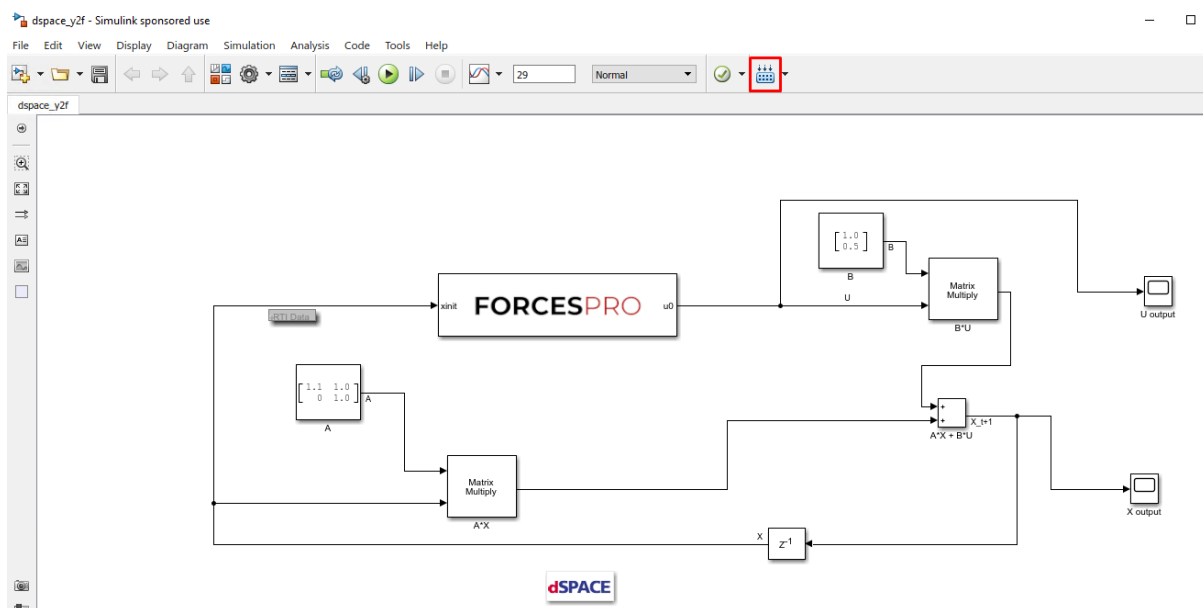

Figure 13.27: Compile the code of the Simulink model.
12. (Figure 13.27) Compile the code of the Simulink model. This will also automatically load the model to the connected dSPACE platform.